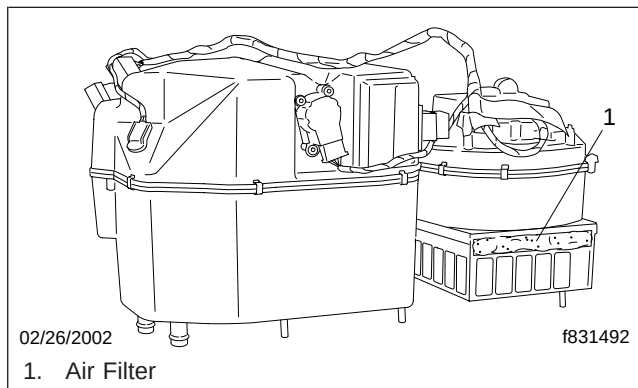

Fig. 8, Sleeper HVAC Assembly, Blend Air
3. Slide the air filter out of the sleeper HVAC assembly. See Fig. 8.